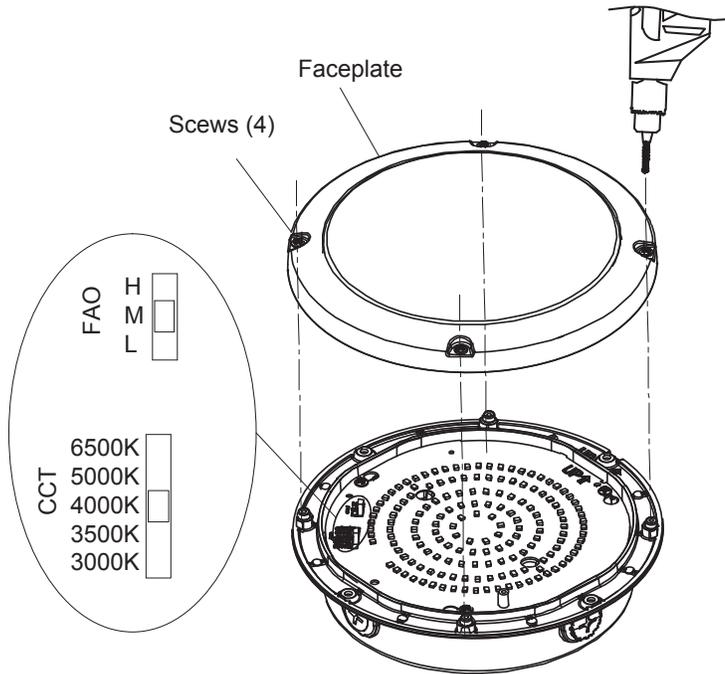

Figure 1
Remove (4) screws to open the faceplate . Desired wattages and CCT can be set by selecting the combination on the DIP switches. See Figure 1.